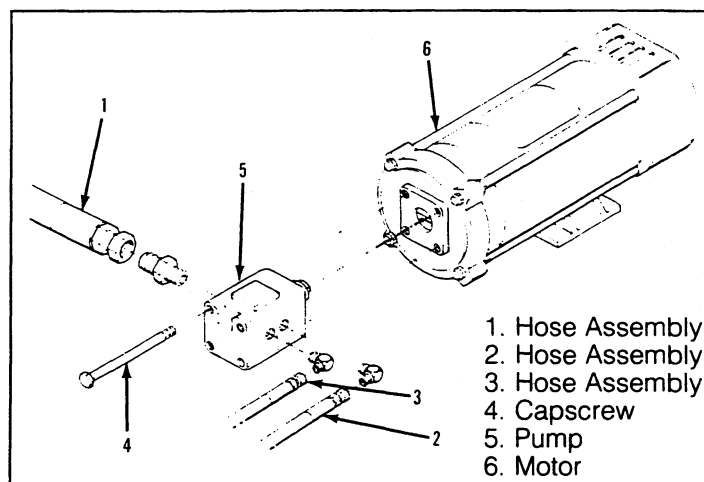

Figure 5-9. Hydraulic Pump Removal
5-18. HYDRAULIC PUMP (Figure 5-9).
a. Removal (Figure 5-9).